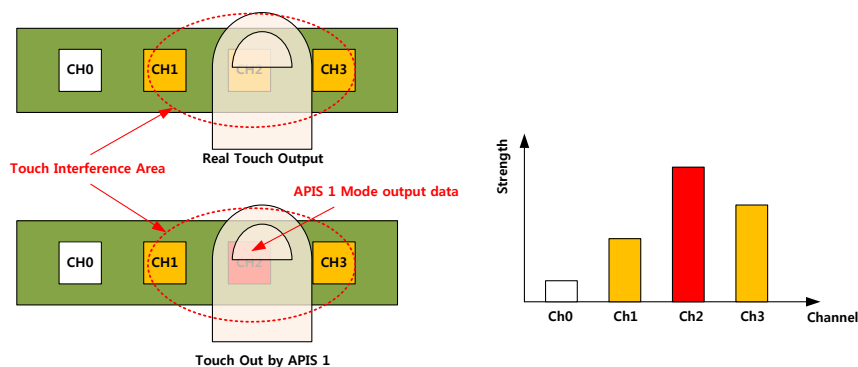

Figure 3: Operation of APIS mode 1
- APIS mode 1:** Reports the strongest output only (Figure 3). Divided into two groups, S0~S3 and S4~S7 can report the strongest outputs by each. One strongest output comes from S0~S3 and the other comes from S4~S7 at over 30pins package.